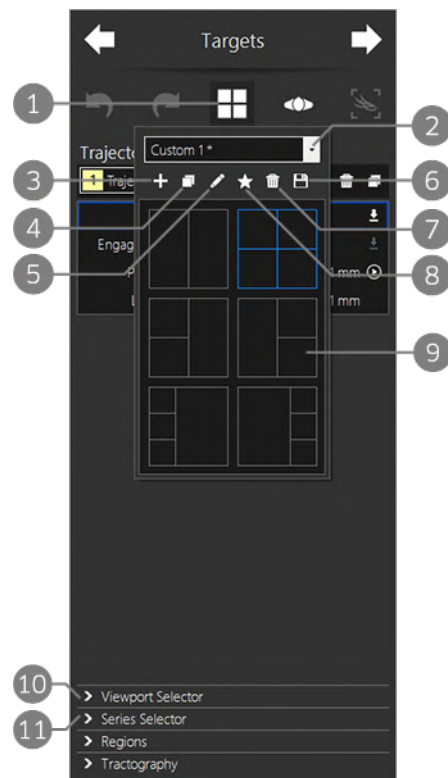

Figure 28 Custom viewport layout features
2. Click the **New** icon (item 3 in Figure 28 above).
3. Select a viewport layout from the viewport layouts options (item 9 in Figure 28 above).
5. Click the **Save** icon (item 6 in Figure 28 above).
3. Click the **Copy** icon (item 4 in Figure 28 above). Modus Nav creates a new custom viewport layout with a default name.
7. If you want to change the name of the new custom viewport layout from the default, click the **Rename** icon (item 5 in Figure 28 above). In the **Custom Layout Name** dialog, enter a name for this viewport layout and then click **OK**.
4. Click the **Save** icon (item 6 in Figure 28 above).
3. Click the **Set as Default** icon (item 8 in Figure 28 above).
3. Click the **Delete** icon (item 7 in Figure 28 above).